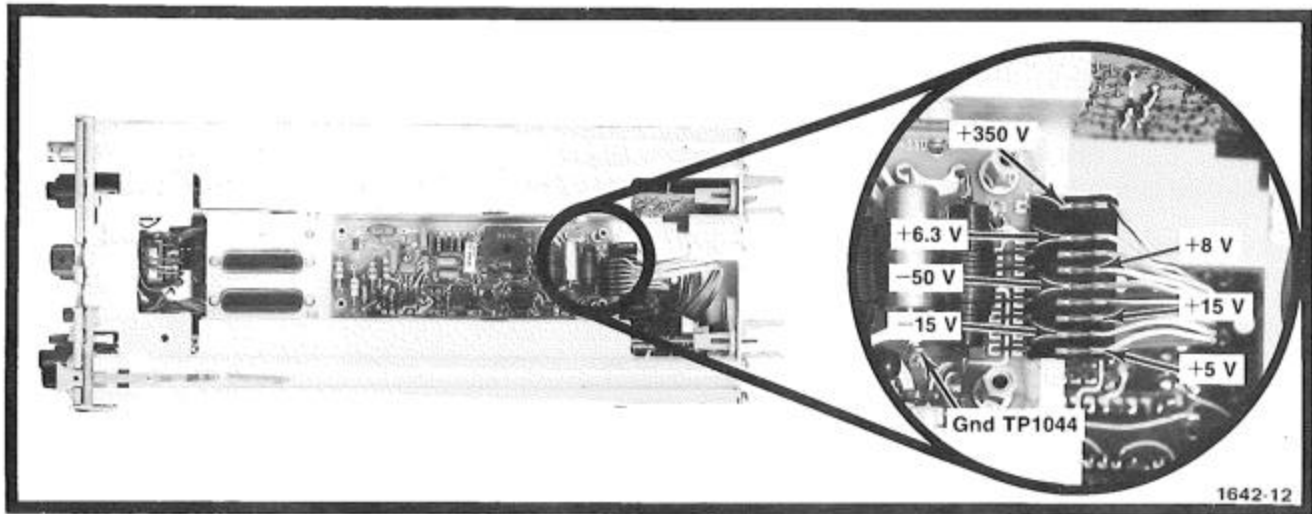

Fig. 5-7. Location of power supply test points.
b. Turn instrument power on and connect the DVM test leads between the +8 V power supply test point and the ground test point TP 1044 on the High Voltage Circuit Board. See Fig. 5-7.
e. CHECK—Refer to the following chart and check the listed power supplies to be within the required tolerances. See Fig. 5-7 for the location of the power supply test points.